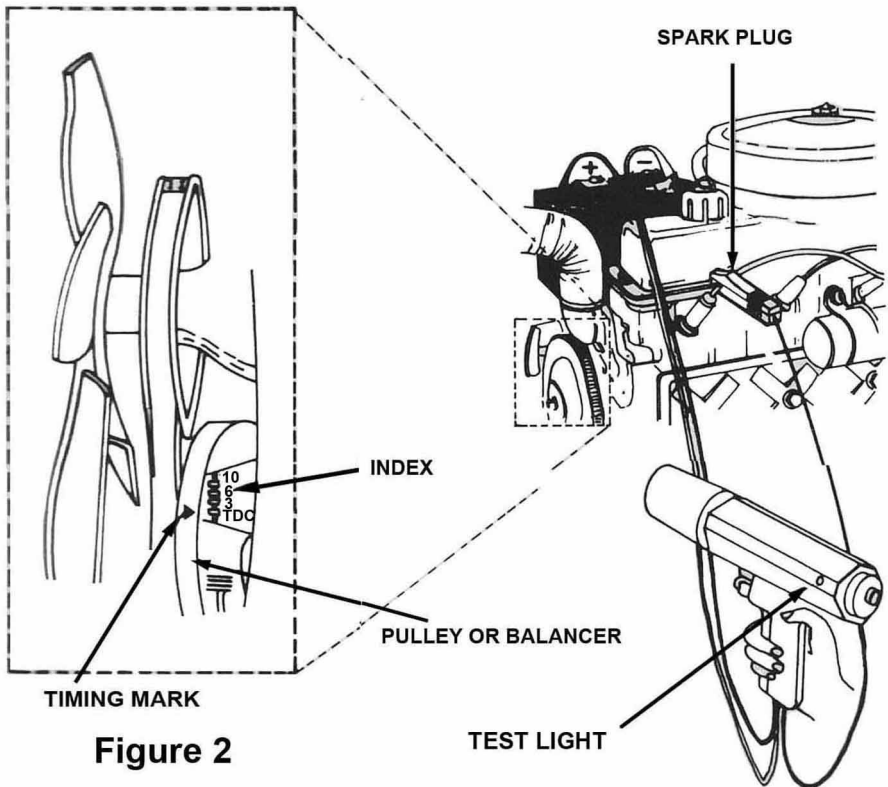

Figure 2
1. Locate the engine timing mark shown in figure 2 on page 5, and use a rag to clean any grease and dirt from the mark and the pointer. It may help to use chalk or white paint on the marks to make them more easily seen.